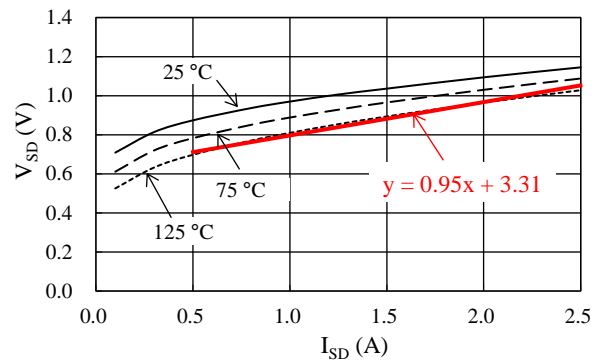

Figure 13-2. Linear Approximate Equation of V_{SD} vs. I_{SD} Curve
- V_{DC} is the main power supply voltage (V), i.e., the VBBx pin input voltage, and
Steady-state loss in the body diode of a power MOSFET can be computed by using the V_{SD} vs. I_{SD} curves, listed in Section 14.3.1. As expressed by the curves in Figure 13-2, a linear approximation at a range the I_{SD} is actually used is obtained by: $V_{SD} = \alpha \times I_{SD} + \beta$. The values gained by the above calculation are then applied as parameters in Equation (3), below. Hence, the equation to obtain the body diode steady-state loss, P_{SD} , is: